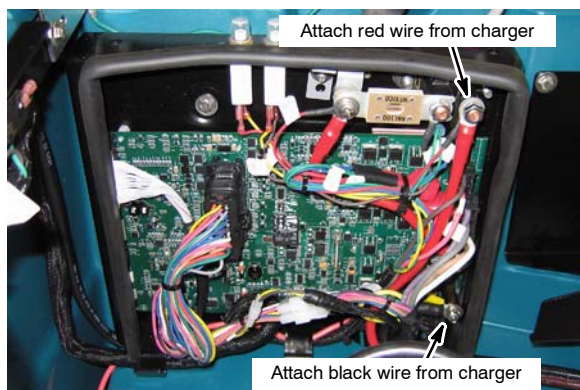

Fig. 8
6. Route the red and black charger wires forward to the control box and attach them where the old charger plug wires were removed. Take special care to properly re-tighten all hardware. Loose connections will cause electrical damage to the machine. Re-attach control box cover (Figure 8).